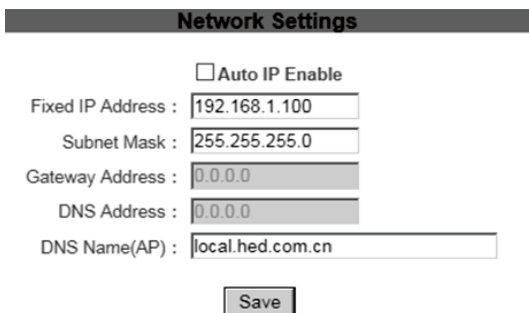

Figure 25
4. In "Network Settings" column, to set up IP automatically (Mark check before the "Auto IP Enable") or by set up IP, "Fixed IP Address" enter IP address; Subnet Mask" enter subnet mask; the rest category remain default, click "Save" button to save the setting (Figure 25).